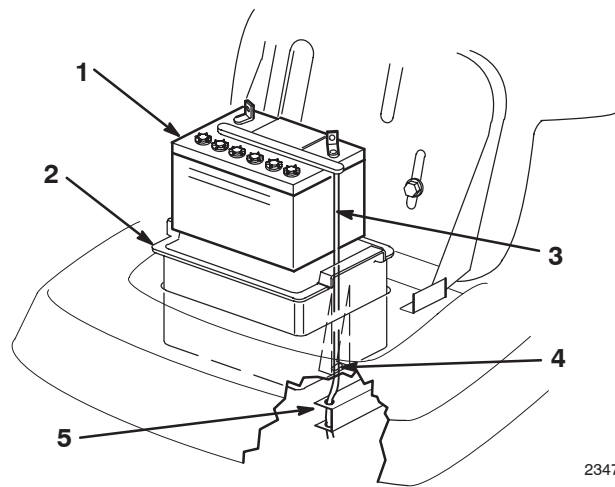

Figure 30
5. Remove the battery box, battery, and long vent tube from the chassis (Fig. 30).
1. Put the battery into the battery box and slide the vent tube into the channel and through the slot in the bottom of the box (Fig. 30).
IMPORTANT: Look down into the cut out area where the battery box fits into the chassis. Notice the holes at the end of the right frame member (Fig. 30). Always install the long battery vent tube through the holes to prevent battery acid from corroding the tractor and mower.
2. Install the battery box and battery into the chassis (Fig. 30). Make sure to slide the end of the vent tube through the hole in the frame (Fig. 30).